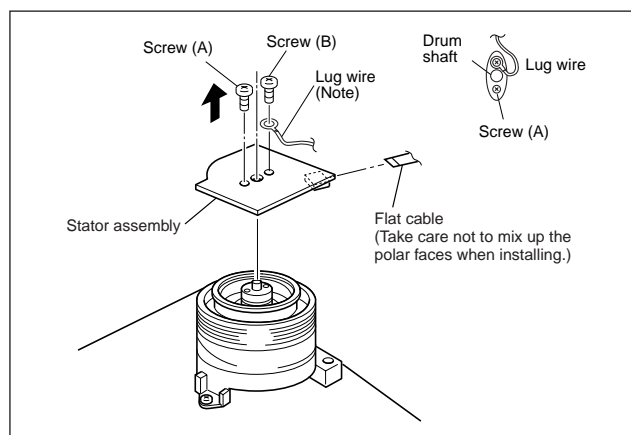
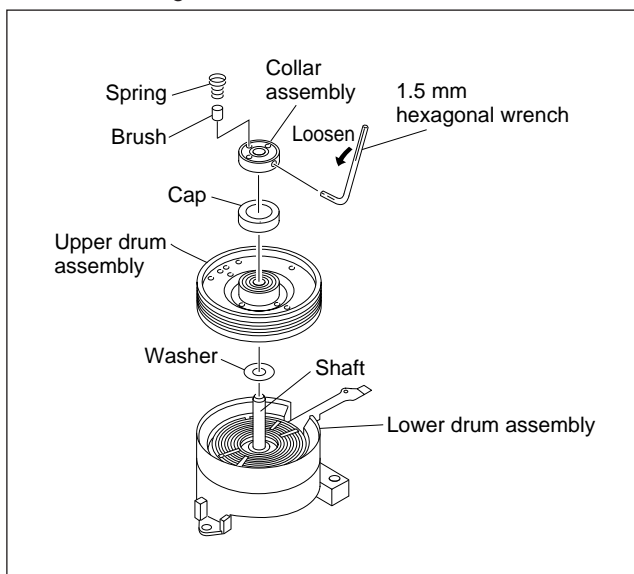
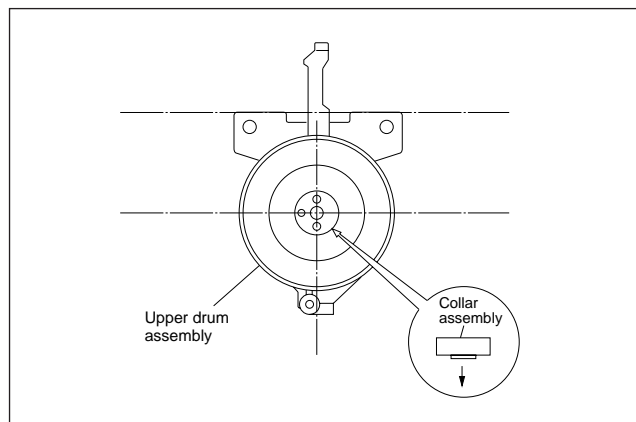

Fig. 2-2-23a
Fig. 2-2-25a
Fig. 2-2-25c
- (2) Install a new washer and upper drum assembly on the drum shaft. (See Fig.2-2-25a.)
- (3) Install the cap to the upper drum assembly.
- (4) Position the collar assembly as indicated in Fig.2-2-25c while controlling its up- down movement.
- (5) Secure the collar assembly in position with a hexagonal wrench while pressing its top with the fingers.
- (6) After installation, gently turn the upper drum assembly with your hand to make sure that it turns normally. Then install the brush and the spring.
- (7) Install the rotor assembly and stator assembly according to Fig 2-2-23a and 2-2-24a.
- (8) When installation is complete, clean the upper drum assembly and lower drum assembly and carry out the following adjustments.